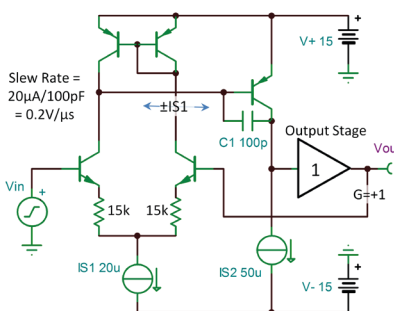

Figure 50: A large change in the input signal creates an output slewing condition.
If the input step is large enough, the accelerator is jammed to the floor. More input will not make the output move faster. (Figure 50 shows why in a simple op amp circuit.) With a constant input voltage to the closed-loop circuit, there is zero voltage between the op amp inputs. The input stage is balanced, and the current  $IS1$  splits equally between the two input transistors. With a step-function change in  $V_{IN}$  greater than 350 mV for this circuit, all of the  $IS1$  current is steered to one side of the input transistor pair. That current charges (or discharges) the Miller compensation capacitor,  $C1$ . The output slew rate (SR) is the rate at which  $IS1$  charges  $C1$ , equal to  $IS1/C1$ .
Large-signal square waves with very fast edges tilt on the rising and falling edges according to the slew rate of the amplifier. The final portion of a rising or falling edge will have rounding as the amplifier reaches its small-signal range, as shown in Figure 50.